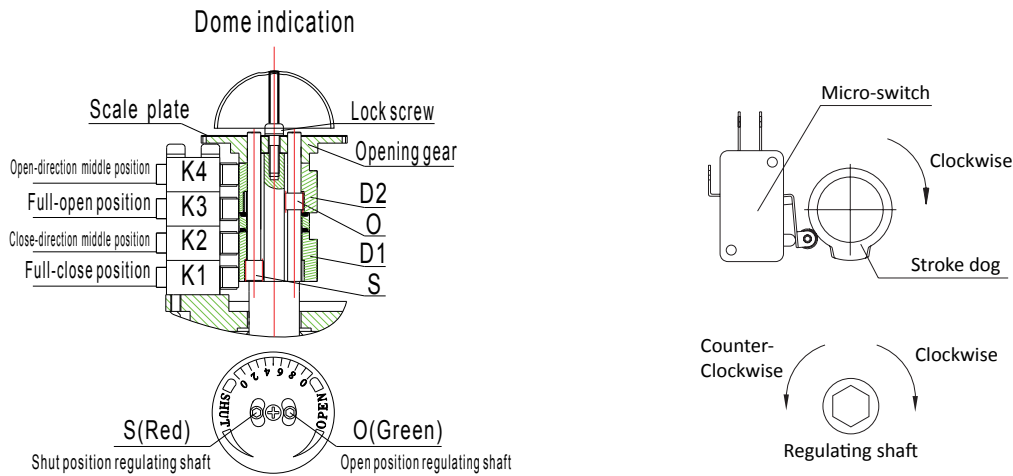

Figure 5
1. Adjustment of electric limits for 2 position valves (Fig 5.)
- a. Full Closed position adjustment: Using the manual hand wheel or hand crank, drive the valve to the full closed position. Ensure the pointer on the dome lid is pointing red zero “shut”. If not, remove lid and loosen dome indicator and re-position to red zero “shut”. To adjust the closed limit switch, loosen shut position regulating shaft (S) using 2mm Allen wrench and rotate the stroke dog D1 (lower) clockwise until the K1 switch makes click. Tighten shut position regulating shaft (S).
- b. Full Open position adjustment: Using the manual hand wheel or hand crank, drive the valve to the full open position. Ensure the pointer on the dome lid is pointing yellow zero “open”. To adjust the open limit switch, loosen open position regulating shaft (O) using 2mm Allen wrench and rotate the stroke dog D2 (upper) counter-clockwise until the K3 switch makes click. Tighten open position regulating shaft (O).